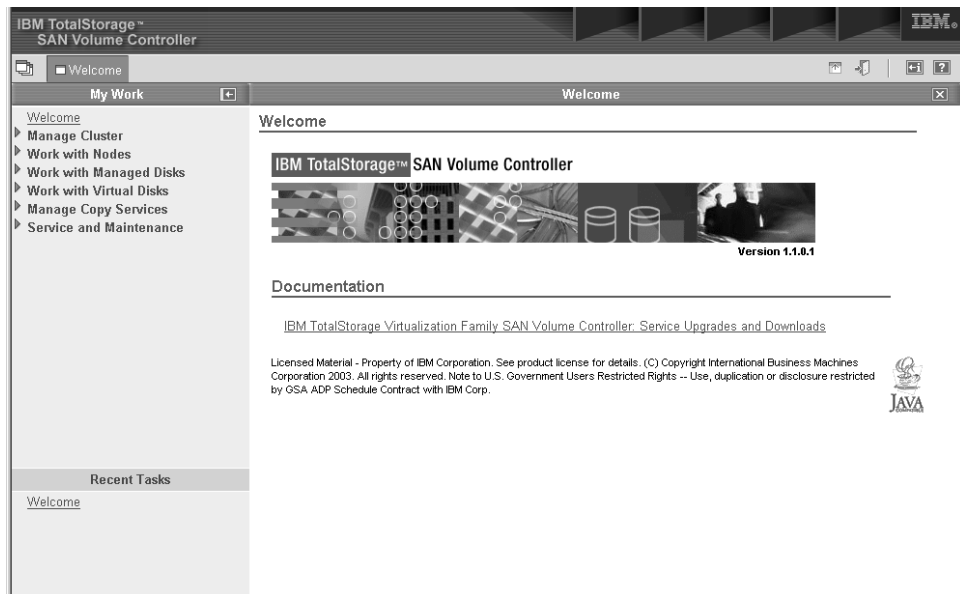

Figure 23. SAN Volume Controller Console Welcome panel
- Click **Go** and the Welcome panel is displayed in a new window. See Figure 23 on page 6.